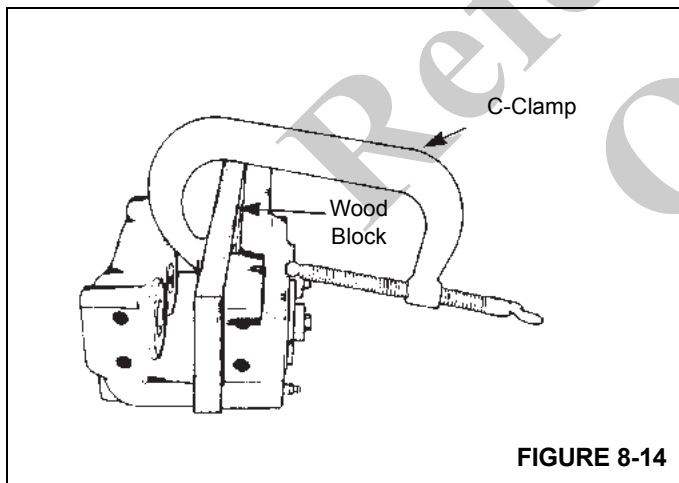

FIGURE 8-14
- a. Use a C-clamp to hold a 12.7 mm (0.5 in) block of wood against two pistons on the mounting side of the housing. Ensure the C-clamp is not in the area in front of the piston bore (Figure 8-14).